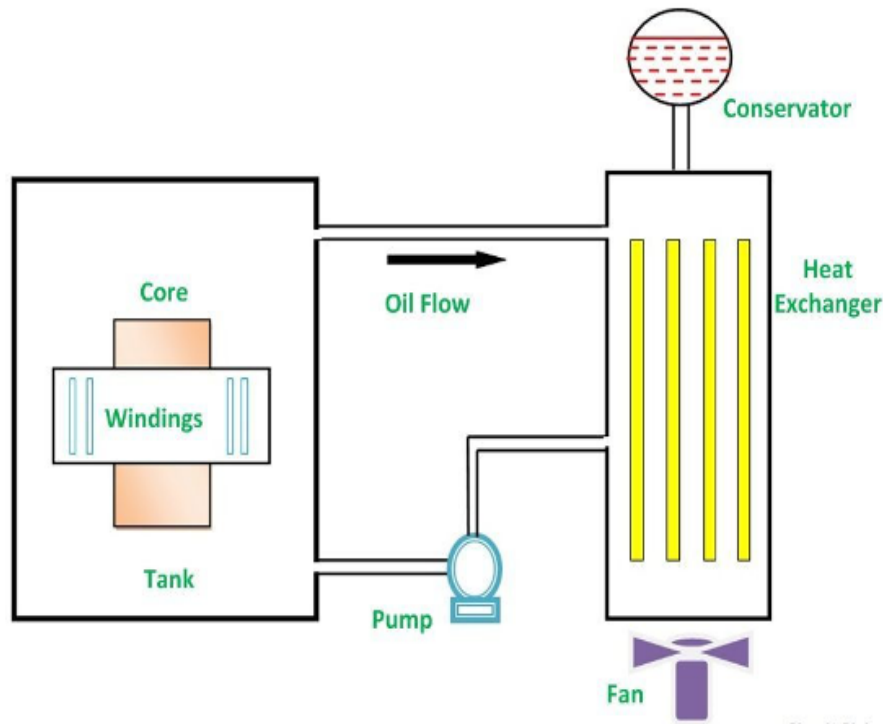

Figure 2.8: Oil Forced Air Forced Cooling of Transformer
- 3. Oil Forced Air Forced (OFAF):** The features of this method include a heat exchanger through which hot oil flows with the aid of a pump and a high-speed fan which forces air onto the heat exchanger to cool the oil. Obviously, both oil and air are applied by force for the cooling of the transformer, hence the name OFAF. During off-peak periods, when the load is small, both fan and the pump are off and the cooling is done naturally just as an ONAN. However, during peak periods, a lot of heat is generated because of the huge load, and this raises the temperature of the oil. As soon as the temperature reaches a pre-determined level, sensors send a signal to both fan and pump and they switch on automatically, and from that moment the OFAF method kicks in. Figure 2.8 shows a diagram of Oil Forced Air Forced Cooling of Transformer.